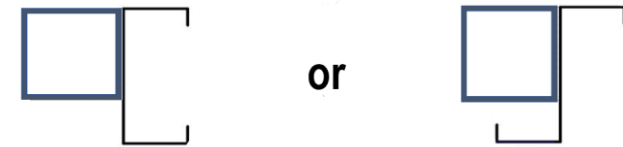

Figure 3
- The Adaptor Tube is screwed against the flat face of the first metal rafter/purlin. The top side of the adaptor tube should be aligned to be flush with the top of the purlin, so they are level. Refer to Figure 3.